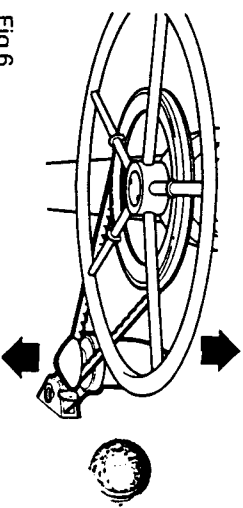

Fig. 6
- Push the clevis downwards against the side wall until the belt is just taut and then adjust its fore-and-aft position until the belt lies parallel to the wheel. A long straight edge, such as a sail batten, will enable the parallel run of the belt to be easily checked. (Fig. 6).